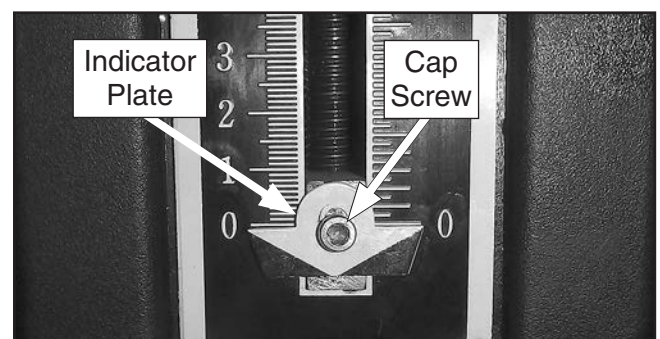

Figure 36. Calibrating depth stop.
1. Lower depth stop (see **Figure 36**) until indicator plate reaches bottom of its travel.
2. Using a 3mm hex wrench, loosen cap screw shown in **Figure 36**, and position plate so its upper edge aligns with zero, then re-tighten cap screw.